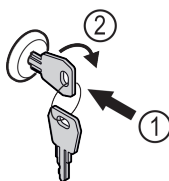

Fig. 171
- ▶ Insert the key. Fig. 171 (1)
- ▶ Turn the key clockwise by 90°. Fig. 171 (2)